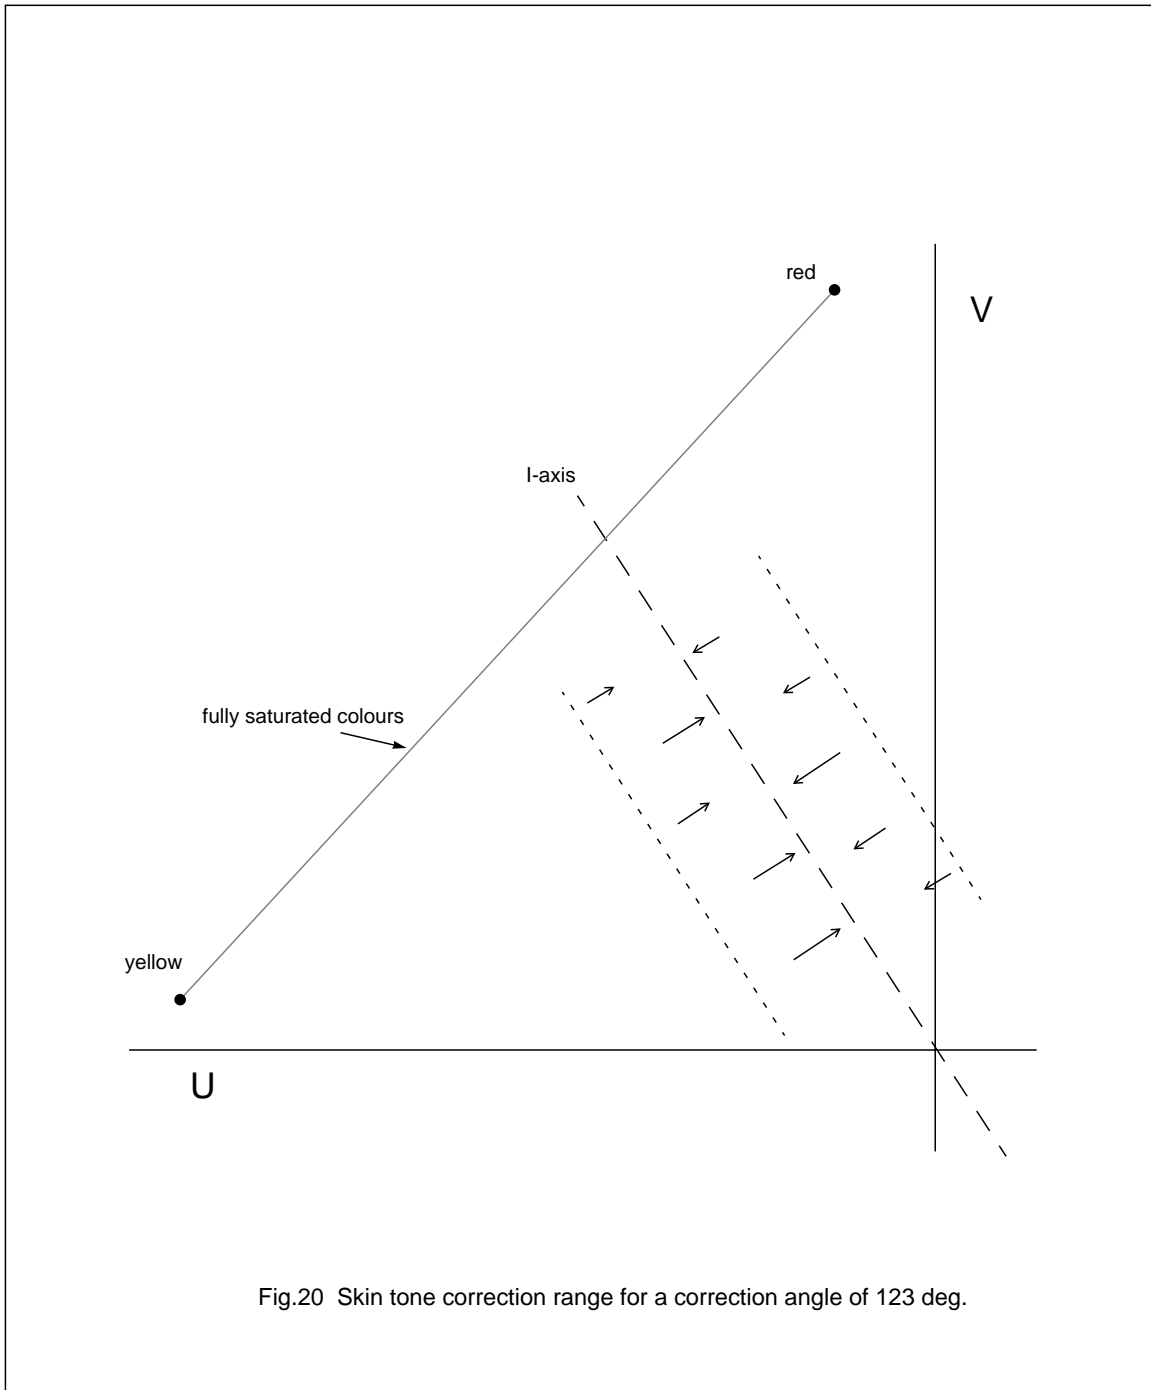

Fig.20 Skin tone correction range for a correction angle of 123 deg.
46. The Dynamic Skin Tone Correction circuit is designed such that it corrects (instantaneously and locally) the hue of those colours which are located in the area in the UV plane that matches to skin tones. The correction is dependent on the luminance, saturation and distance to the preferred axis and can be realised for 2 different angles. This angle can be set by means of the DSA bit. Because the amount of correction is dependent on the parameters of the incoming YUV signal it is not possible to give exact figures for the correction angle. The correction angle of 45 (+/-22.5) degrees is just given as an indication and is valid for an input signal with a luminance signal amplitude of 75% and a colour saturation of 50%. A graphical representation of the control behaviour is given in Fig.20.